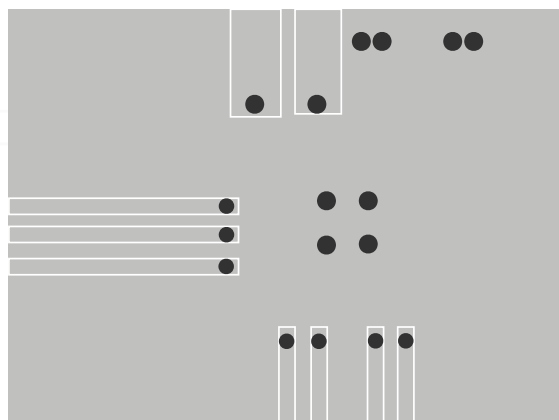

Figure 4 — Layer 2
- Make all ground connections to a solid ground plane as shown in Figure 4.